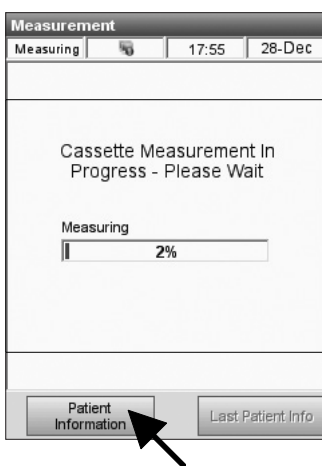

Fig. 5-14 Sample Measurement
- The sample will then be aspirated and measured (Fig. 5-14).
15. You can again enter patient information while measurement is in progress by pressing **<Patient Info>** (Fig. 5-14). Please follow the steps for patient data entry described under calibration on p. 5-8.